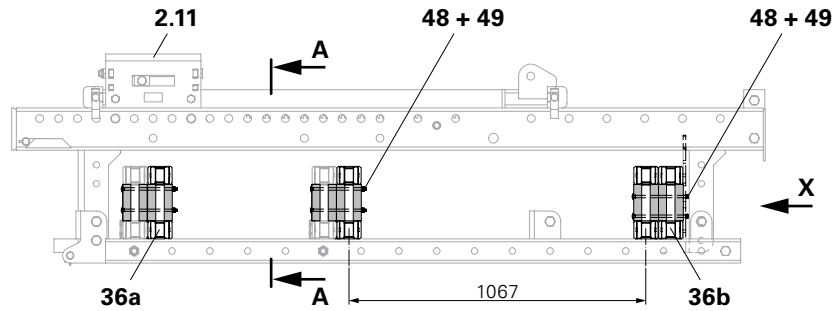

Fig. B1.10
9. Secure Platform Beams (36b) on both Tension Belts using F.H. bolt DIN 603 M8 x 180 (48) and washers ISO 7094 200 HV A 8 (49). (Fig. B1.10)